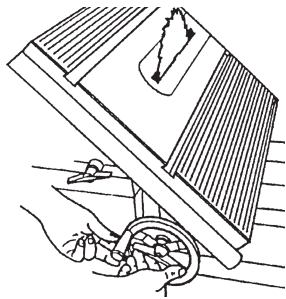

Figure 42
- Lower the Worktable so the Saw Blade extends through the slot. See Figure 42. Lock the Table Height.